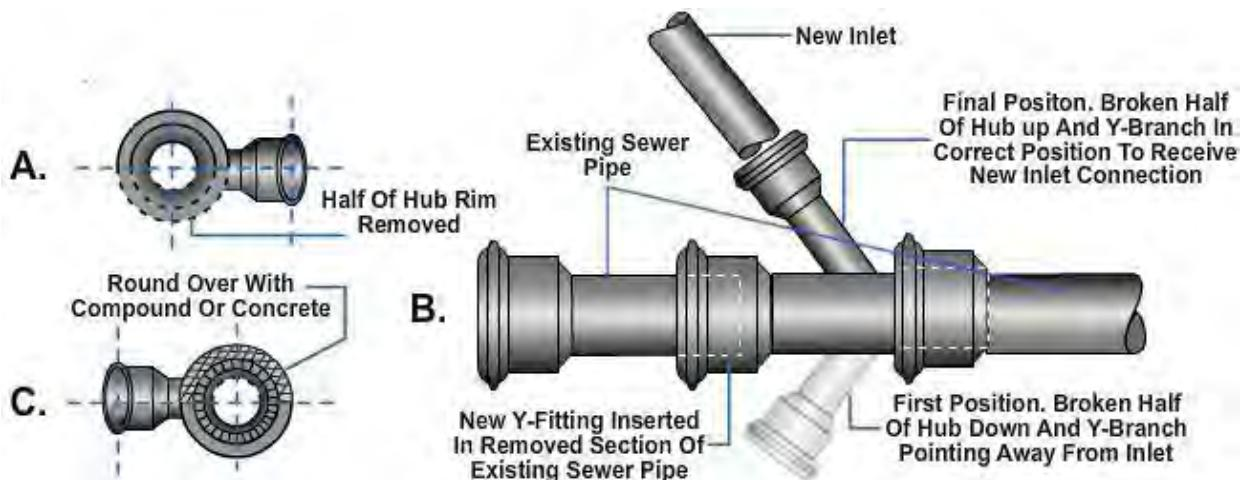

Figure 33 — Adding connections to an outside vitrified clay sewer pipe.
When the job calls for adding connections to an outside vitrified clay sewer line, here is one step-by-step method, shown in *Figure 33*.
2. Break half of the hub rim of the new Y-fitting, as shown in *Figure 33, View A*.
3. Insert the spigot end of the Y-fitting into the hub of the existing pipe. At the same time, place the remaining half of the hub end of the Y-fitting over the cut end of the existing pipe with the Y-branch pointing away from the new inlet. (See the first position of *Figure 33, View B*).
5. Pour the joint carefully; round over the broken half of the hub with plenty of concrete or mastic compound, as shown in *Figure 33, View C*.